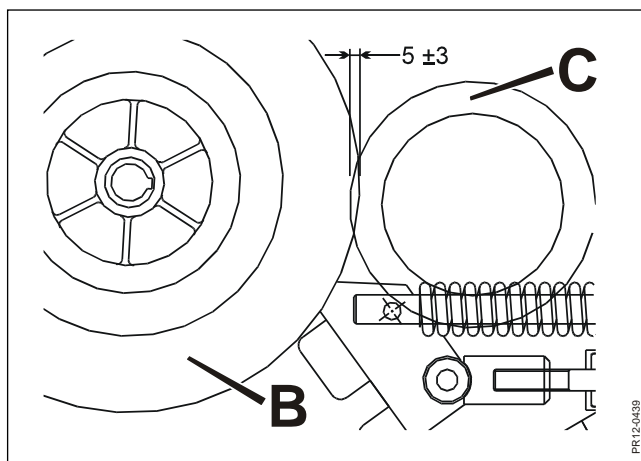

Fig. 4-34
**Fig. 4-34** The overlap between the steel friction disk **B** and the rubber disk **C** is  $5 \pm 3$  mm during reversing. This must not be adjusted for wear because the cylinder always maintains a constant pressure determined by the pressure relief valve.